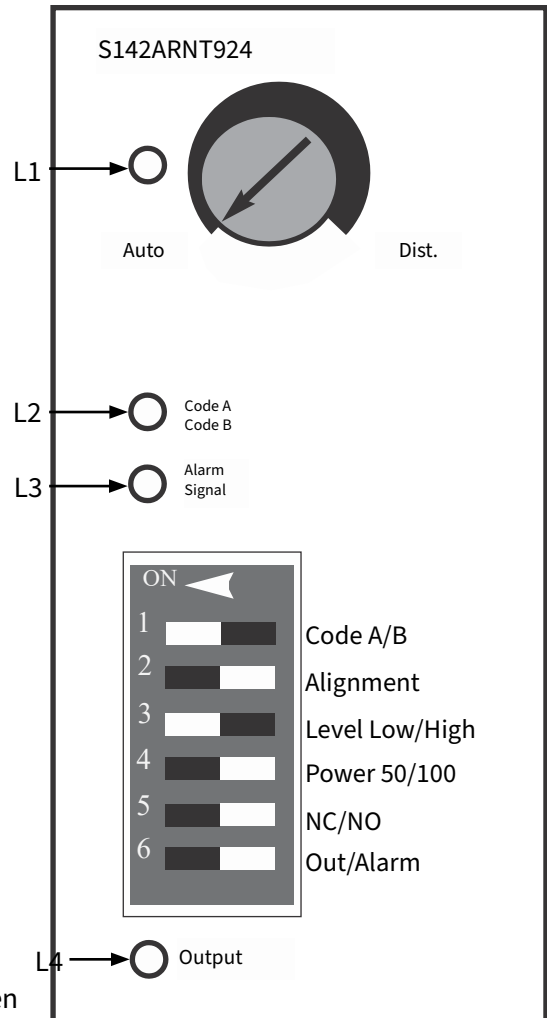

Figure 42: Photoeye Amplifier Controls
4. Lights 1 & 2 will illuminate green. Lights 3 & 4 will illuminate amber. Refer to Figure 42.